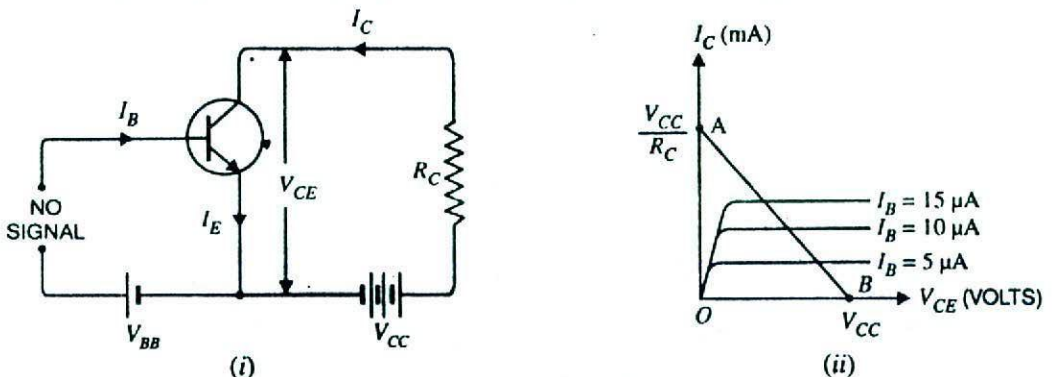

Fig. 10.28
d.c. load line. Consider a common emitter *npn* transistor circuit shown in Fig. 10.28 (i) where no signal is applied. Therefore, d.c. conditions prevail in the circuit. The output characteristics of this circuit are shown in Fig 10.28 (ii).
This gives the first point *B* ($OB = V_{CC}$) on the collector-emitter voltage axis as shown in Fig. 10.28 (ii).
This gives the second point *A* ($OA = V_{CC}/R_C$) on the collector current axis as shown in Fig. 10.28 (ii). By joining these two points, d.c. *load line *AB* is constructed.